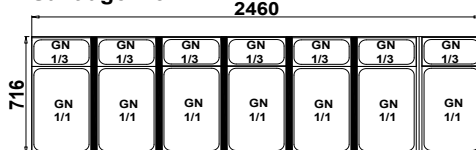

Fig.2 Layout of GN containers in „Santiago Gastro” device
5. (Concerns only "GASTRO" displays) place universal salad tank in the display cabinet. Place cross-bars under GN containers in the module tank, and then place GN containers according to Fig.2 (p.15)